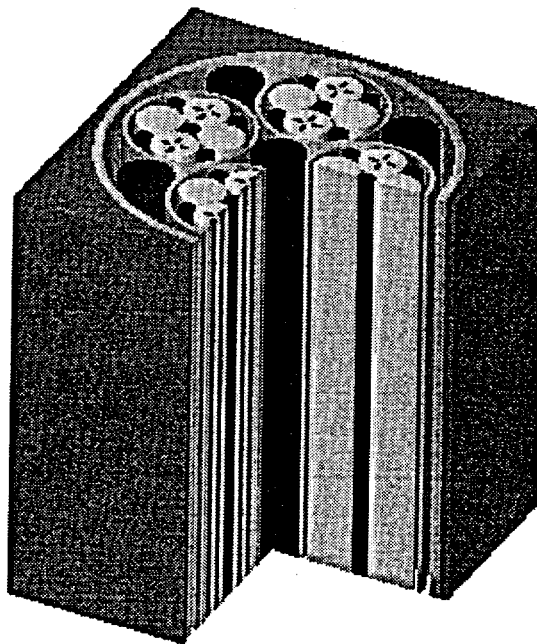

Figure 2 Simple KENO V.a example
7.  Click on 'Remove Section' followed by 'OK' to get the resulting image shown in Figure 2.